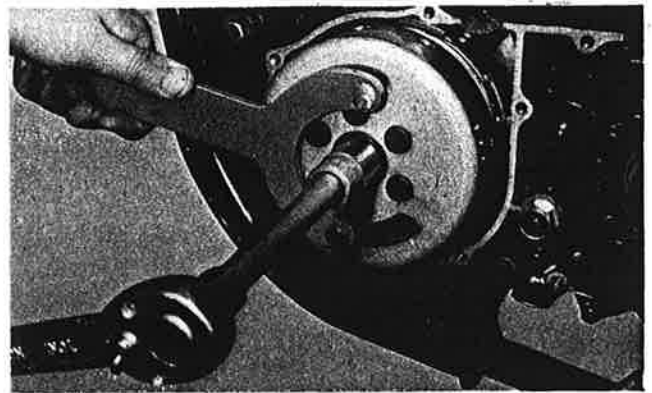

Fig. 3-1-17
2. Remove flywheel securing nut using magnet holder, note the position and direction of the washers. (Fig. 3-1-17)